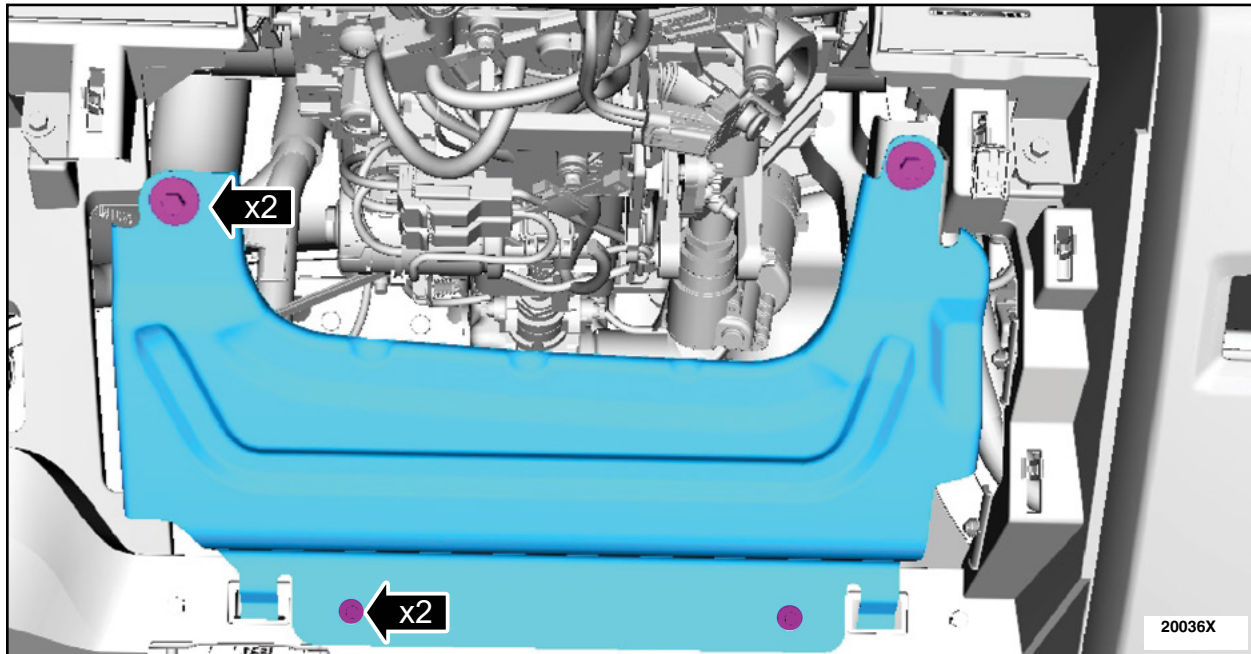

FIGURE 26
44. Remove the bolts and the steering column reinforcement panel. See Figure 26.